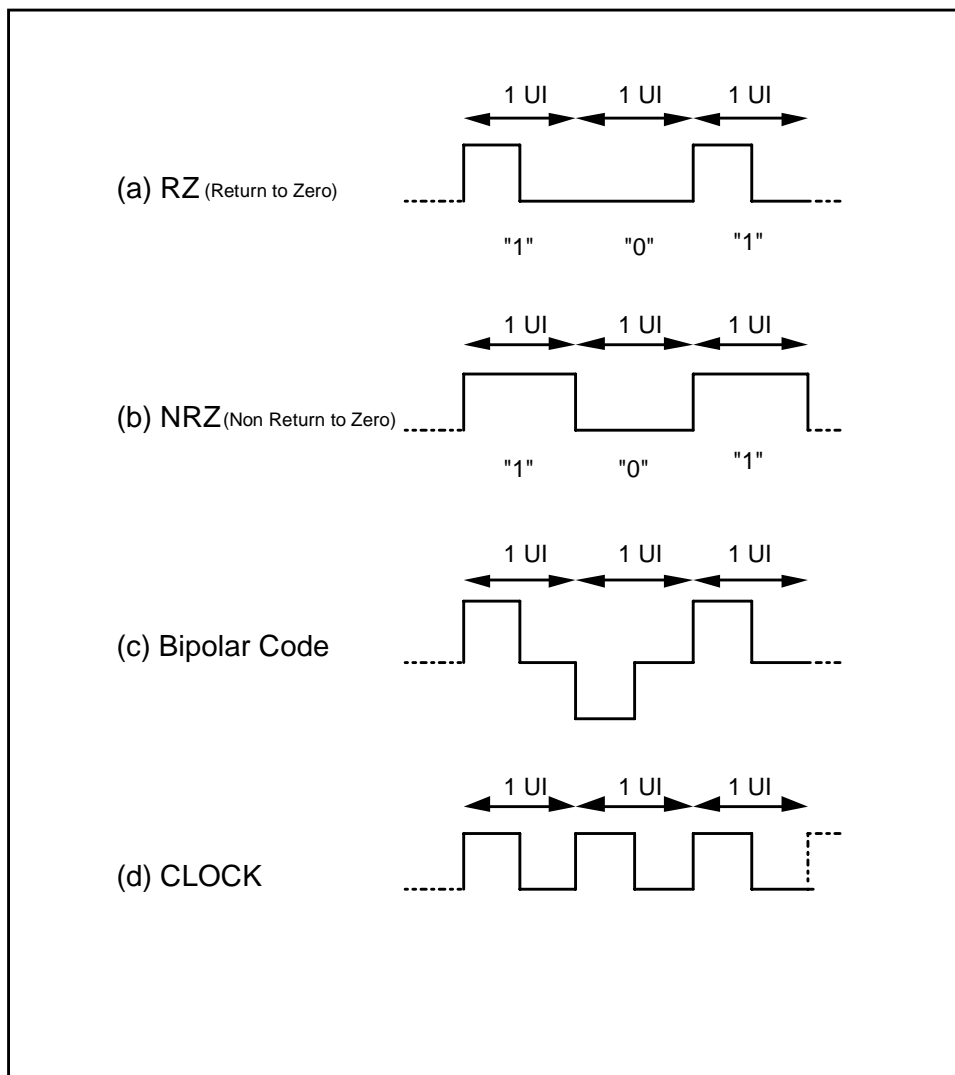
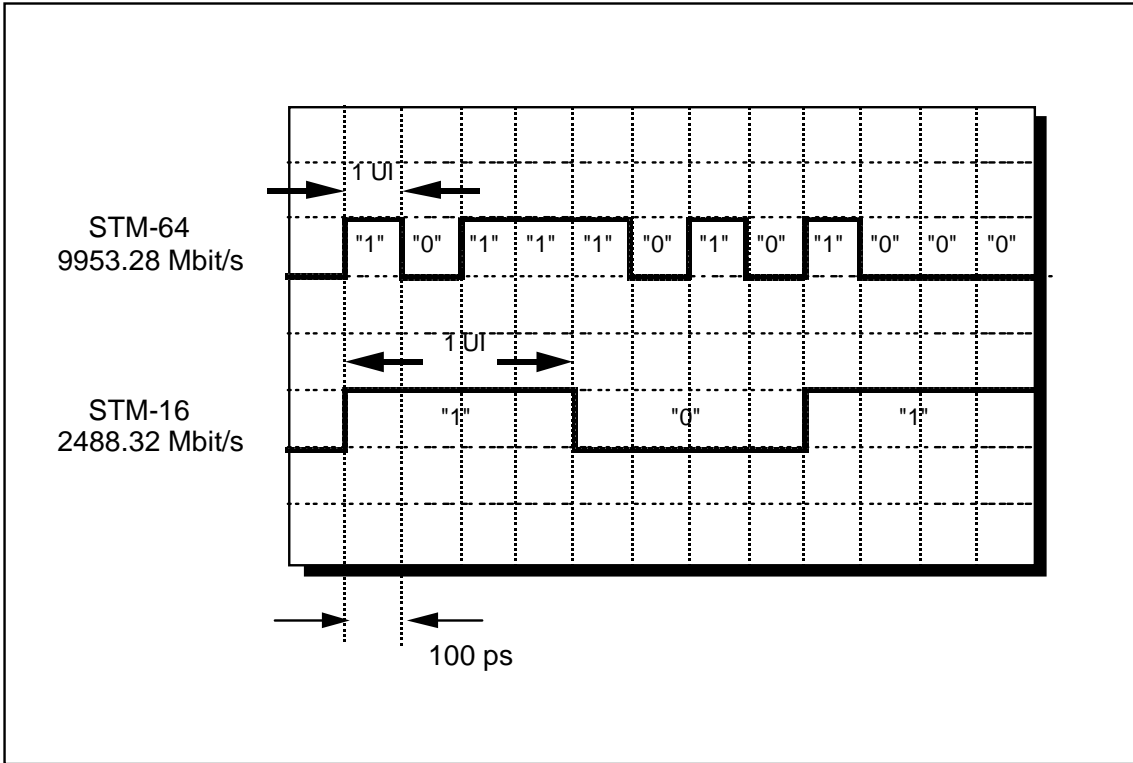

Figure 2-4 Unit of jitter (1)
Figure 2-5 Unit of jitter (2)
Jitter is the phase change of a digital signal, and the quantity of jitter is an index for evaluating the transmission quality. All transmission codes require a common unit. Unit Interval (UI) is used as a unit that indicates the jitter amplitude. One UI is defined as one cycle of bit clock (see Figure 2-4). Two types of units: UI_{pp} (peak to peak of phase change width) and UI_{rms} (effective value of phase change width) are actually used. Since these units are standardization parameters that are bit rate independent, the quantity of jitter can be compared at different bit rates (see Figure 2-5).